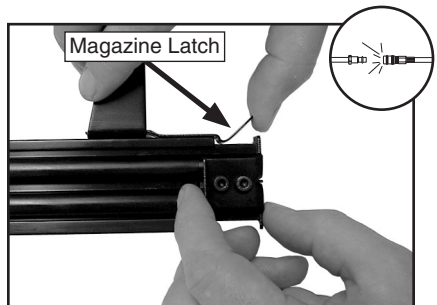

Figure 5. Pressing the magazine latch.
2. Press the magazine latch, as shown in **Figure 5**, and pull the magazine cover back.